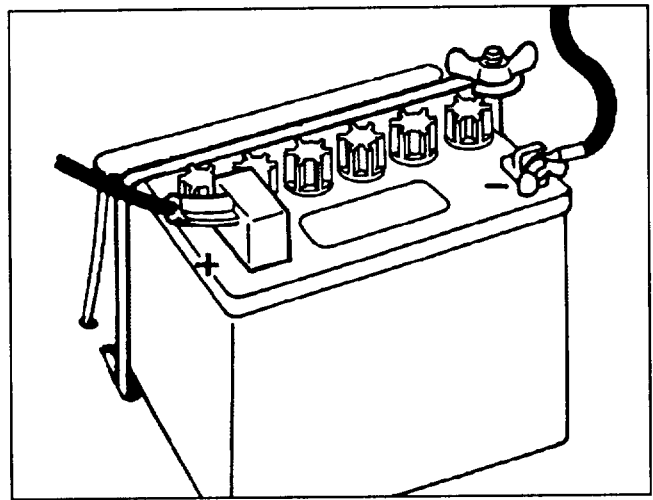

Figure 5
9. Install the battery with the terminal posts toward the rear of the machine and vent tube on left side of battery, thru hole in frame (Fig. 5).
11. Install the positive cable (rubber boot over end) to the positive ( + ) terminal and the negative cable (black) to the negative ( - ) terminal of the battery and 1. secure with capscrews and wing nuts. Slide the rubber boot over the positive terminal to prevent possible short-out from occurring (Fig. 5).